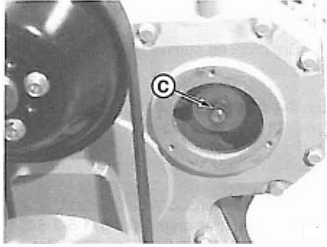

Figure 2
5. Remove injection pump drive gear cover (shown removed, figure 2).